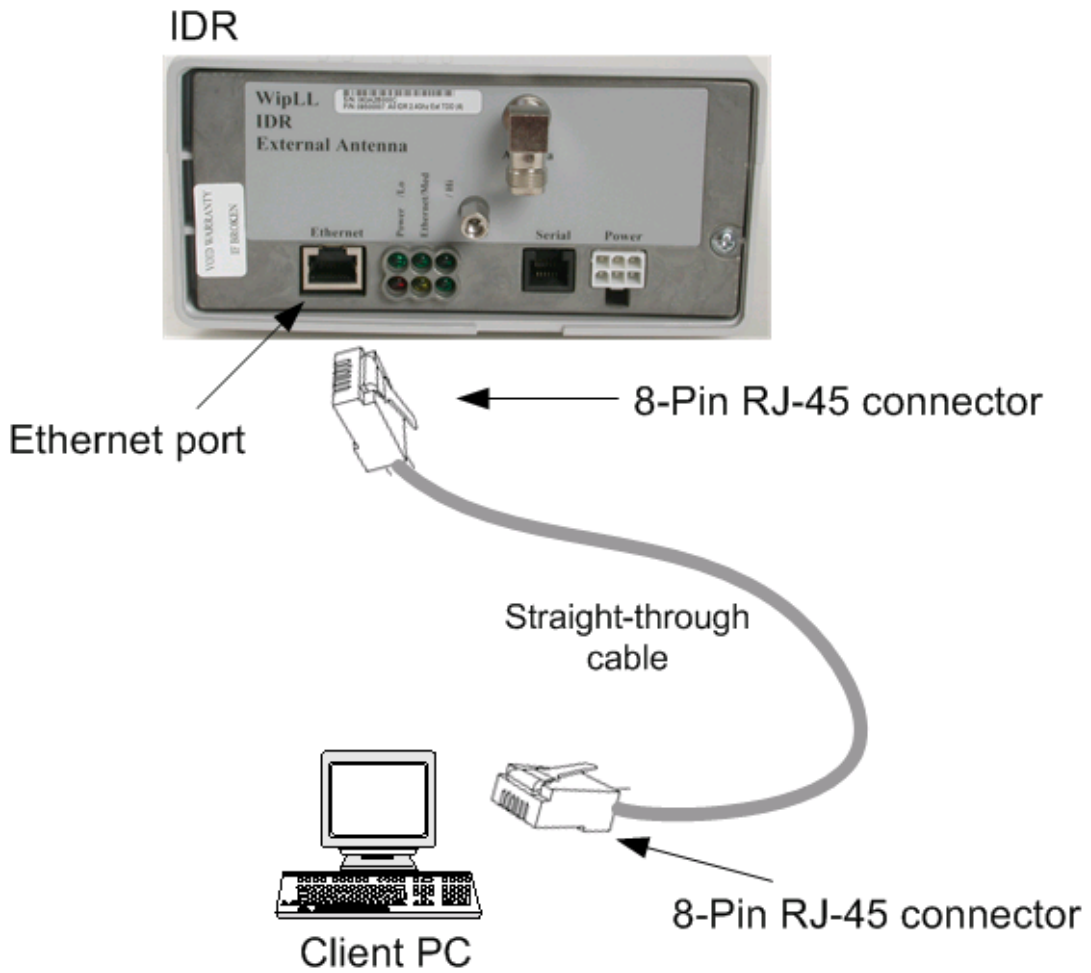

Figure 10-12: Connecting IDR to a client PC
1. Attach the 8-pin RJ-45 connector, at one end of the cable, to the IDR's Ethernet port, labeled **Ethernet** (see Figure 10-12).
2. Attach the 8-pin RJ-45 connector, at the other end of the cable, to the PC's LAN port (see Figure 10-12).